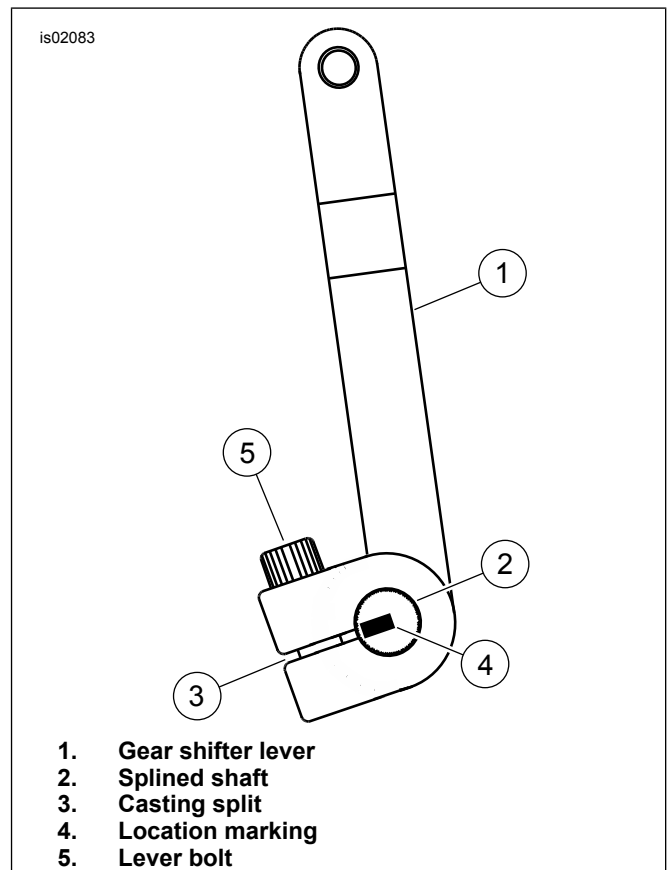

Figure 1. Gear Shifter Lever Orientation
See Figure 1. Before removing the gear shifter lever (1), it is necessary to mark the correct orientation of the lever. Using a marking tool, draw a location marking (4) on the end of the splined shaft (2) across from the casting split (3). This will allow the new gear shifter lever to be installed in the same orientation as the old lever.